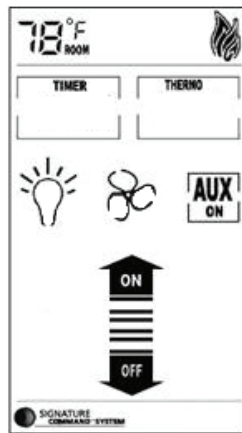

Figure 5.6
- During the 10 seconds, press the OFF button on the transmitter to learn. Another two beeps will be given to confirm a successful learning. Figure 5.6
### Manual Mode (Figure 5.6)